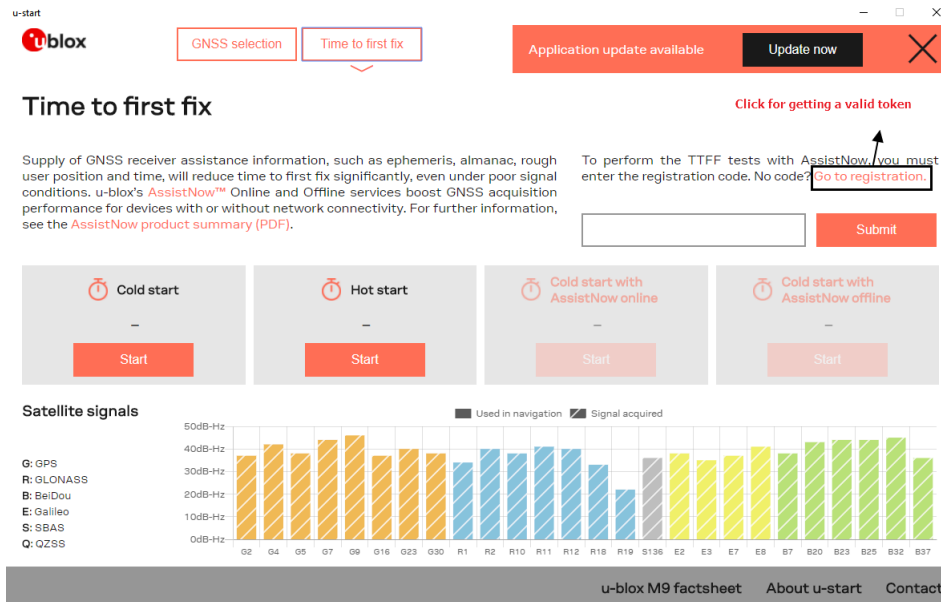

Figure 3: Time to first fix view
- AssistNow Online service requires an internet connection. You can get a valid temporary token needed for the AssistNow services simply by clicking **Go to registration** button as indicated in Figure 3.